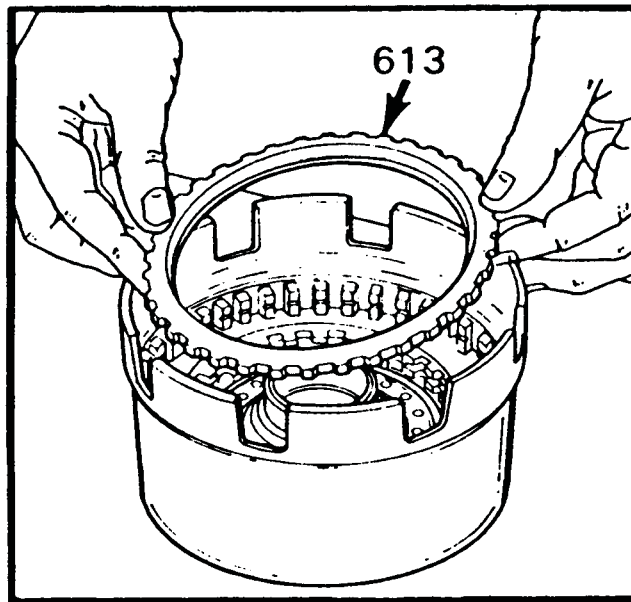

Figure 127
17. Install the reverse input clutch backing plate, chamfered side up, shown in Figure 127.